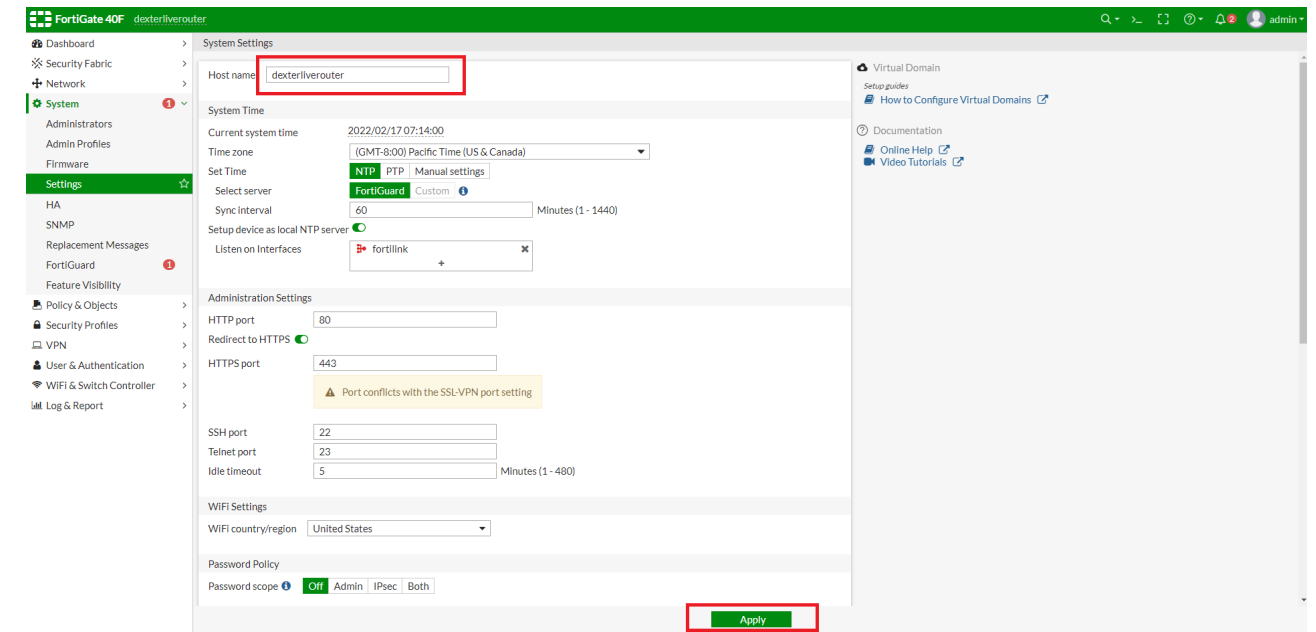

Figure 11
4. Enter the router's Host Name by navigating to "System", then select "Settings". In the "Host Name" field, enter **dexterliverouter**. At the bottom of the screen select "Apply". (Figure 11)